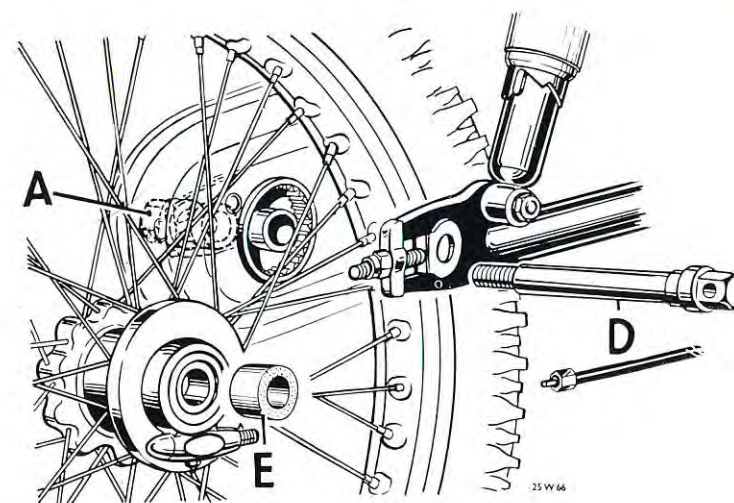

Fig. 10. Removal of the rear wheel.
Removal of the rear wheel does not affect the chain or brake adjustment. Disconnect the speedometer driving cable at the hub and unscrew the spindle (D) Fig. 10, from the right-hand side. It has a normal right-hand thread and therefore unscrews in an anti-clockwise direction. It is also drilled to accept a tommy-bar to facilitate withdrawal. The spacing sleeve (E) between the speedometer drive and the fork end can then be removed and the wheel pulled away from the brake drum and withdrawn from the machine. When detaching the rear wheel it is unnecessary to touch the hexagon nut (A) on the left-hand side, as this retains the brake drum assembly in position.